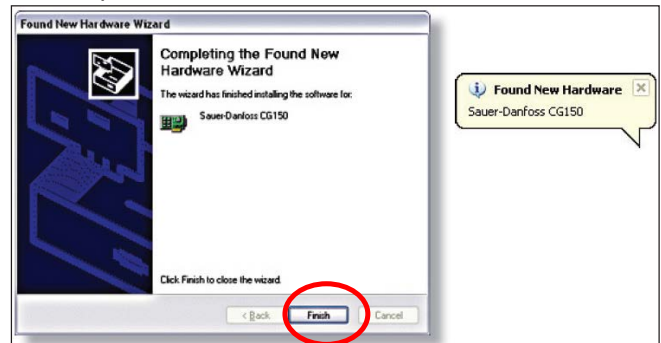

Figure 18. CAN Driver Installation Complete
5. Click "Finish" on the next screen (Figure 18) to complete installation.